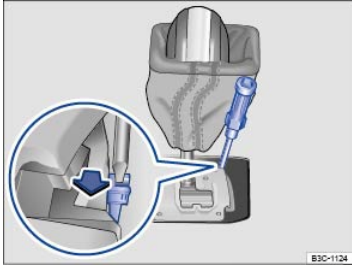

Fig. 113 Releasing the selector lever lock.
- With the screwdriver from the vehicle tool kit, carefully push the colored release lever in the direction of the arrow and hold it in this position ⇒ Fig. 113 (arrow).